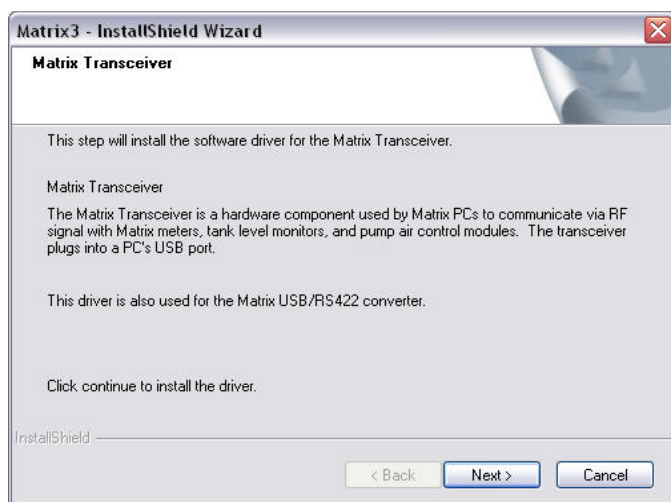

FIG. 20
13. The system configures the Matrix Database. When the Matrix Transceiver screen shown in FIG. 20 displays, select NEXT to start the Transceiver Driver installation.